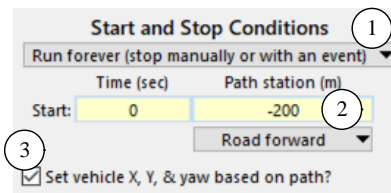

Figure 1. Checkbox on the Procedures screen.
The `OPT_INIT_PATH` parameter may be disabled by a checkbox (3) on the **Procedures** screen (Figure 1). If this checkbox is not checked, and the drop-down control (1) does not specify that the run is stopped when a station is reached, then the path station field (2) is not visible because a starting station is not used by the VSM Math Model. In this case, the `X0`, `Y0`, and `Yaw` variables are not modified in the initialization.